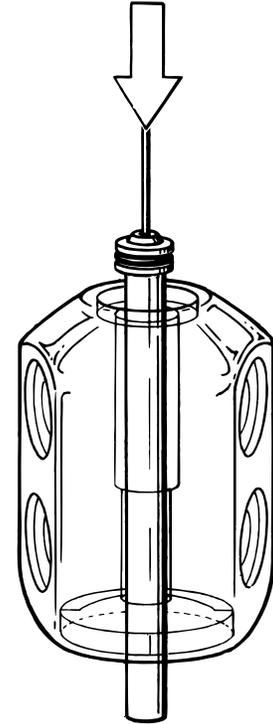

Fig. 4
1. Install the O-ring(12) onto the crown(11), and place the crown over the pin of the extractor tool (P/N 1094-36) with the orifice sealing surface facing up.
2. While holding the first stage body(10) vertical with the high pressure side facing straight up, insert the handle of the extractor tool into the body. Pass the tool through the low pressure side so that the crown remains inside, resting above its seating shoulder (see Fig. 4).
4. Turn the body over and stand it on a padded surface with the high pressure side facing down. Place the small end of the pin support(25) inside the opening in the center of the body.
7. Lay the spring pad(27) in the center of the diaphragm with the mating tab facing up, and thread the spring retainer(28 or 32) clockwise into the body by hand until snug.